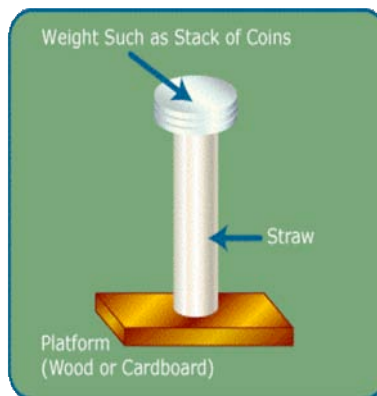

Figure 4
- (a) Begin the experiment by placing the weights (such as coins) directly on top of the straw (Figure 4). See if you can get the straw to buckle.